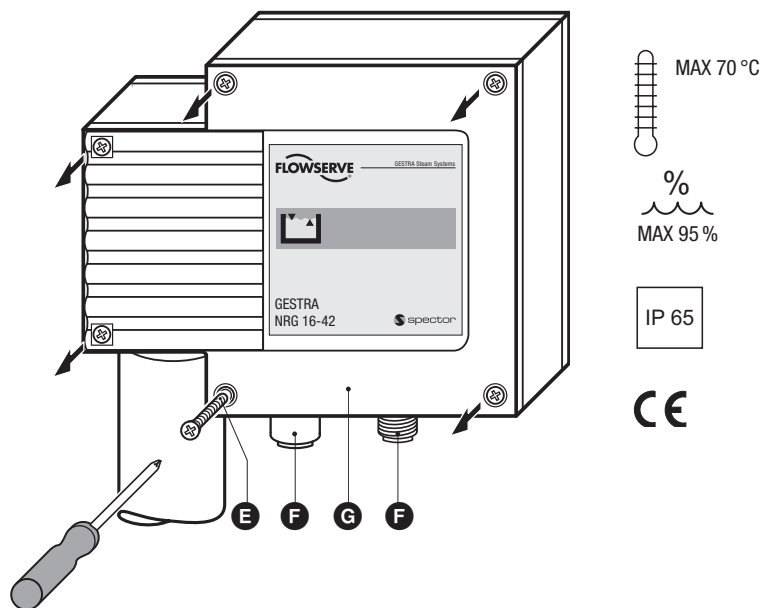

Fig. 5
1. Unscrew screws , remove housing cover . **Fig. 5**